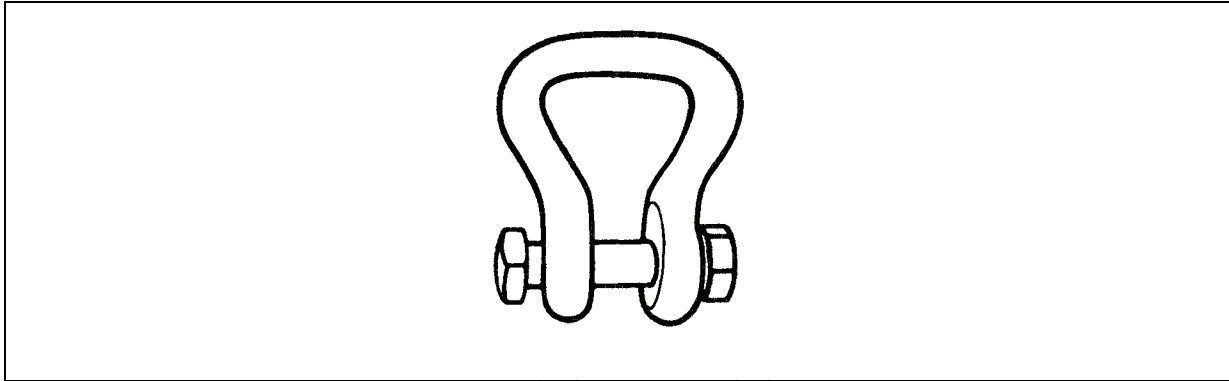

Figure 8-34. Small Clevis Assembly (Part No. MS 70087-1)
- **Small Clevis.** The maximum load weight that can be lifted using a small clevis (Figure 8-34) at the ends of a four-legged sling set is 15,000 pounds. If the load has two or three attachment points, the maximum load weight is 7,500 and 11,250 pounds, respectively. The small clevis can also be used to lift a load that weighs up to 6,250 pounds if it has only one attachment point. The small clevis is identified by a 5/8-inch bolt and nut.